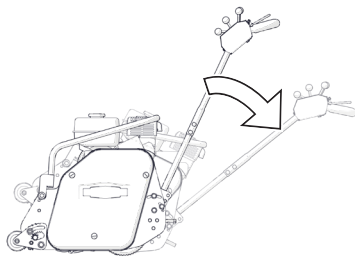

Fig.12C - Gently tip the machine back
4. Tip the machine gently back so it rests on the rear roller and handlebar (Fig.12C).